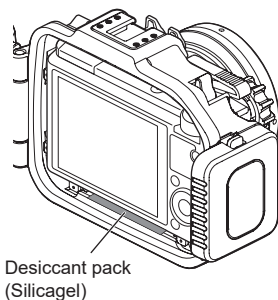

Fig.4
- A substantial difference between the external (water) and the internal (camera and air) temperatures sometimes result in dewfall on the inside surface of the housing lens. This phenomenon typically happens when the camera becomes hot due to long and consecutive use. Use the optional Silicagel (62108) as shown in Figure 4 to reduce dew condensation.